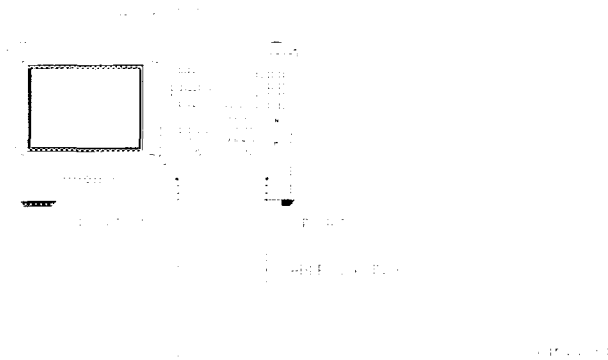

Figure 4-25. System Trace Noise Test Setup
- 1 Connect the equipment as shown in Figure 4-25.